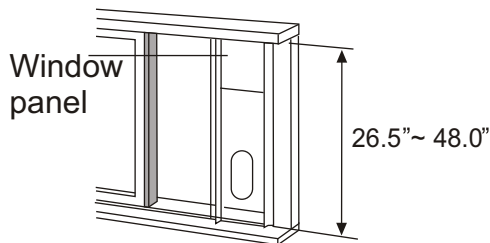

Fig.13
2. Attach the window slider kit to the window stool. Adjust the length of the window slider kit according to the width of window, shorten the adjustable window kit if the width of window is less than 26.5 inches. Open the window sash and place the window slider kit on the window stool. See Fig.13.